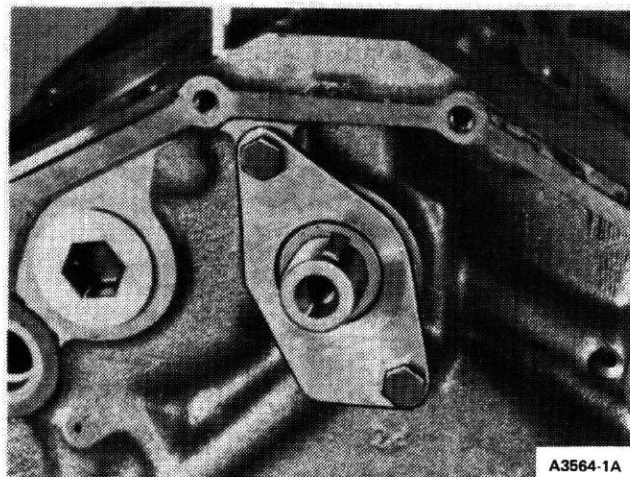

FIG. 24 Camshaft Thrust Plate Installed
3. Install the spacer ring with the chamfered side toward the camshaft. Insert camshaft key. Install thrust plate so that it covers the main oil gallery (Fig. 24). Torque attaching screws to specifications.